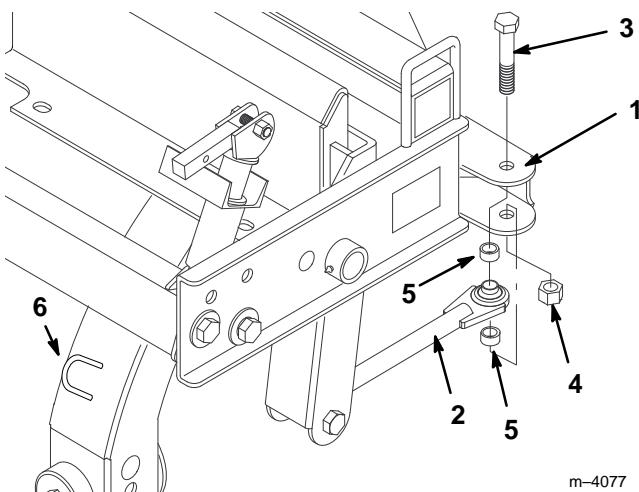

Figure 4
7. Connect the swing arm to the swing bracket on the pivot frame with two spacers, a 3/4 in. (1.9 cm) x 4 in. (10 cm) bolt, and a 3/4 in. (1.9 cm) nut (Fig. 4). Torque to 265 ft-lbs (359 Nm).
8. Route the hydraulic hoses through the ring on the back of the pivot frame (Fig. 4)